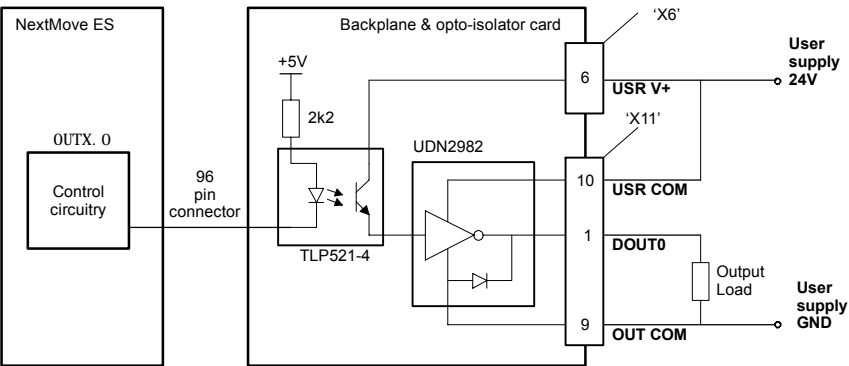
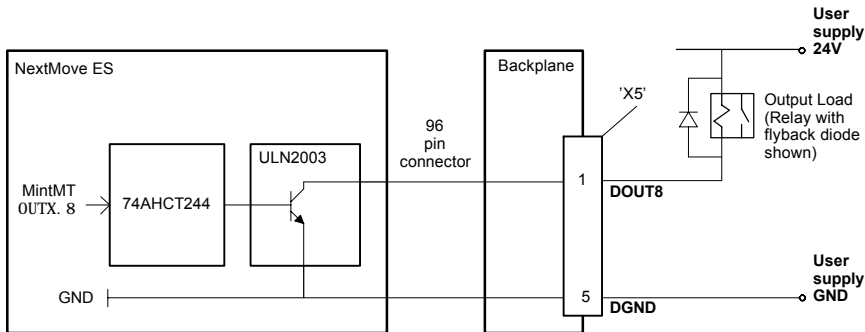

Figure 18 - Digital output circuit (DOUT0-7) with ‘PNP’ current sourcing module - DOUT0 shown
Figure 20 - Digital output circuit (DOUT8-11) - DOUT8 shown
* The BPL010-502 and BPL010-503 opto-isolating cards use different output driver ICs, as shown in Figures 18 and 19. Due to the pin configuration of these ICs, the functions of the X11 connector's USR COM and OUT COM pins are different on the PNP and NPN cards.
An external supply (typically 24VDC) is used to power the UDN2982 output devices, as shown in Figure 18. When an output is activated, current is sourced from the user supply through the UDN2982, which can source up to 75mA per output (all outputs on, 100% duty cycle). Connect OUT COM to the user supply GND. This will connect internal transient suppression diodes on all outputs. If an output is used to drive a relay, a suitably rated diode must be fitted across the relay coil, observing the correct polarity (see Figure 20). The use of shielded cable is recommended.
An external supply (typically 24VDC) is used to power the ULN2803 output devices and drive the load, as shown in Figure 19. When an output is activated it is connected to USR COM through the ULN2803, which can sink up to 150mA per output (all outputs on, 100% duty cycle). Connect OUT COM to the user supply 24V. This will connect internal transient suppression diodes on all outputs. If an output is used to drive a relay, a suitably rated diode must be fitted across the relay coil, observing the correct polarity (see Figure 20). The use of shielded cable is recommended.